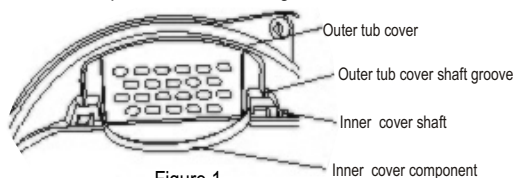

Figure 1
3. Firstly insert the inner cover shaft of the left side into the corresponding outer tub cover shaft groove (see to the figure 1), then hold the middle position of the front of the outer tub cover with left hand forcibly, handhold the right and below position of the inner cover with right hand, push the inner cover to the outer cover vertically, make the inner cover shaft into the corresponding outer tub cover shaft groove (see to the figure 2). Please install to designated position to guarantee there are no dropping or abnormal sound in opening and closing of the inner cover, and the operation shall be smooth. Do not dismount the inner cover component after washing.